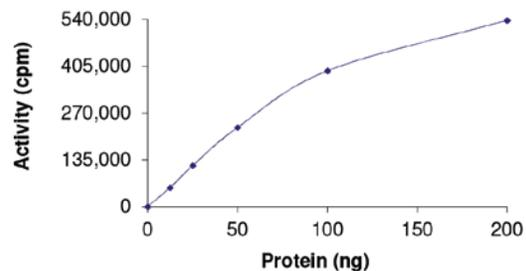

Figure 2: Enzymatic assay results. The specific activity of Chk1 was determined to be 220 nmol/min/mg as per activity assay protocol (on reverse).
- **Active Kinase** - Active Chk1 (0.1 µg/µL) diluted with Kinase Dilution Buffer I to the concentrations shown in Figure 2.